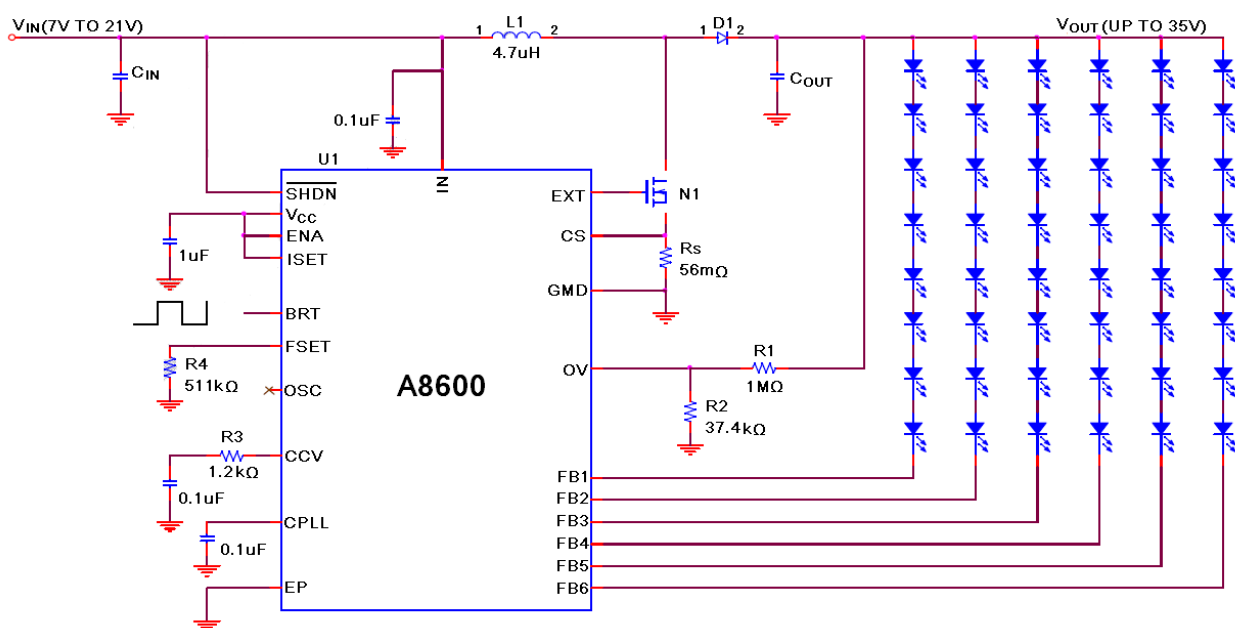

Figure 1. Typical Operating Circuit
To protect the step-up converter when the load is open, or the output voltage becomes excessive for any reason, the A8600 features a dedicated over voltage feedback input (OV). The OV pin is connected to the center tap of a resistive voltage-divider from the high voltage output (see Figure 1). When the A8600 is powered up, if none of the LED strings on FB1–FB6 are connected to the step-up converter output, the step-up converter regulates the output voltage to  $V_{OUT} = 1.23V(1 + R1 / R2)$ . When  $V_{OV}$  exceeds 1.23V, a comparator turns off N1. The step-up converter switch is reenabled after the output voltage drops below the protection threshold.